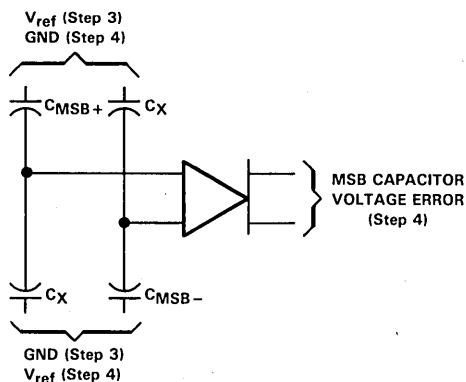

FIGURE 2
4. Now the MSB capacitor is tied to GND, while the rest of the ladder capacitors,  $C_x$ , are tied to REF. An MSB capacitor voltage error (see Figure 2) on the comparator output will occur if the MSB capacitor does not equal the sum of the other capacitors in the capacitive ladder. This error voltage is converted to an 8-bit word from which a capacitor error is computed and stored in the RAM.